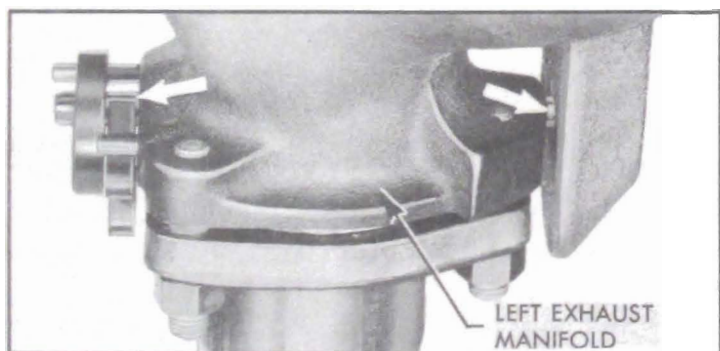

Figure 1-8—Manifold Valve—Series 50-70
13. **Manifold Valve Shaft.** Place a few drops of graphited kerosene on shaft at each end and rotate shaft to work lubricant into bearings. See figure 1-8. If shaft is frozen, free up by tapping ends of shaft lightly with hammer.